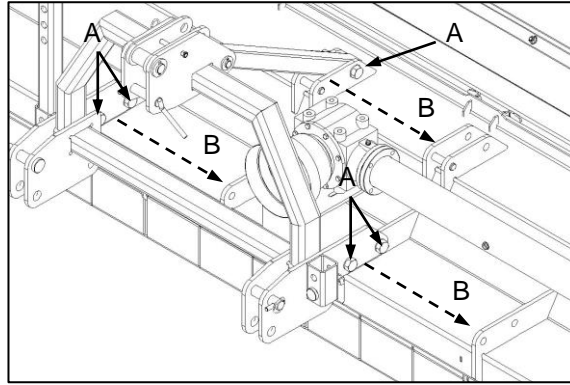

Fig. 5
- ✔ Remove all front and rear hitch frame mounting bolts (Fig. 5-A).
- ✔ Verwyder alle voorste en agterste haakraammonteerboute (Fig. 5-A).
- ✔ Manually relocate the hitch frame to the alternative mounting locations situated to the left of the implement centre line (Fig. 5-B).
- ✔ Verskuif die haakraam met die hand na die alternatiewe monterposisies links van die implement se middellyn (Fig. 5-B).